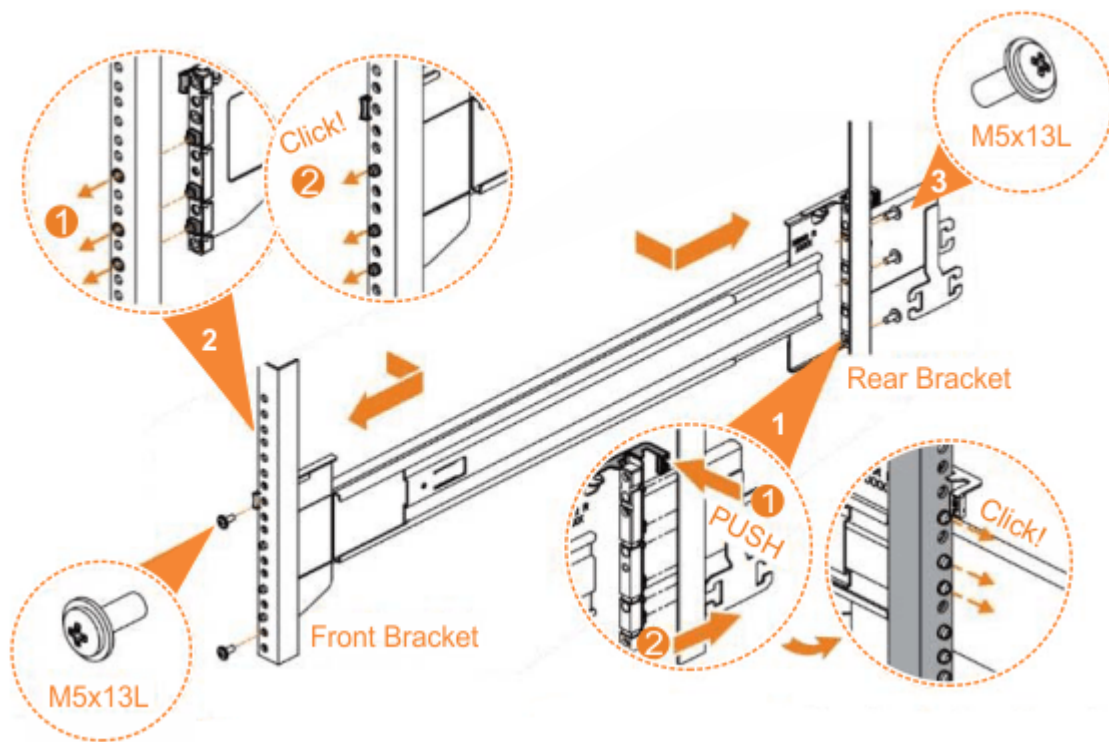

Figure 47. Installing the rail assembly to the rack frame
6. Use the M5 screws to install the outer rail member and bracket assembly to the rack, as shown in Figure 47 on page 49.